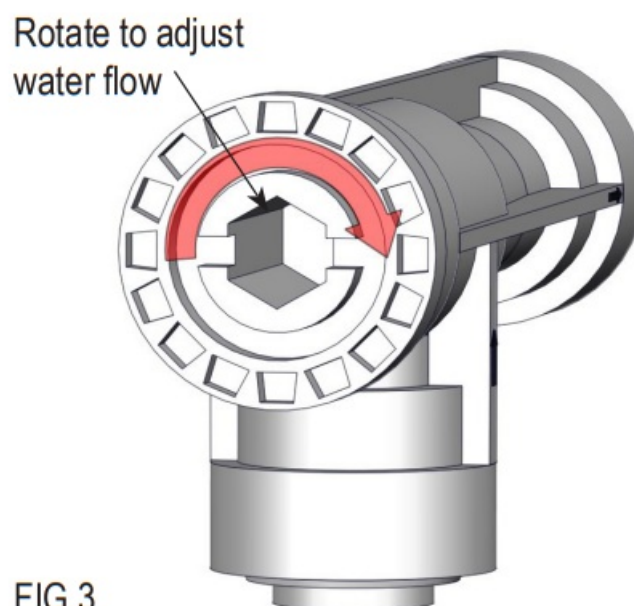

FIG.3
2. To adjust the flow rate, rotate the adjustment screw anti-clockwise to increase the flow and clockwise to decrease the flow, see FIG.3. (Use 1/4 or 1/2 turn increments)